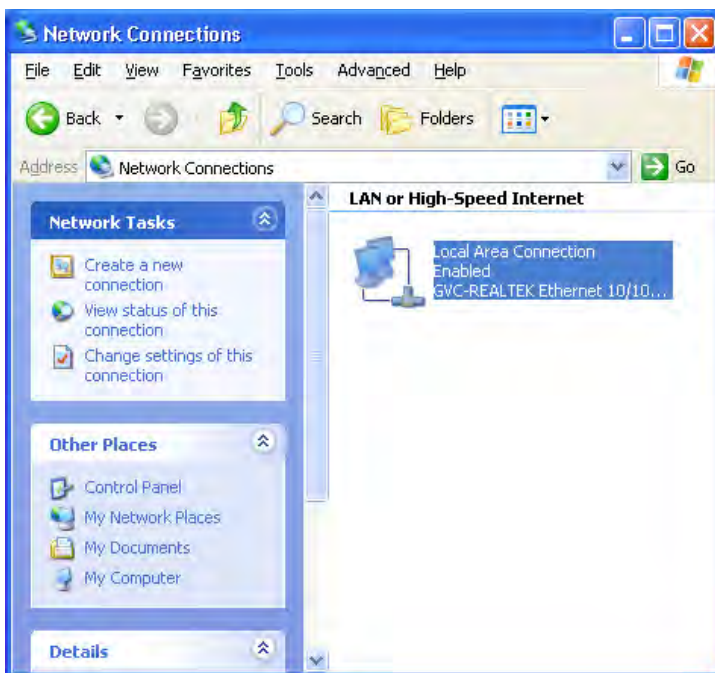

Figure 2. The Network Dialog
4. On the host PC, open the Windows Control Panel and double-click the **Network and Internet Connections** icon. The **Network Connections** dialog box will appear, as shown in Figure 2.